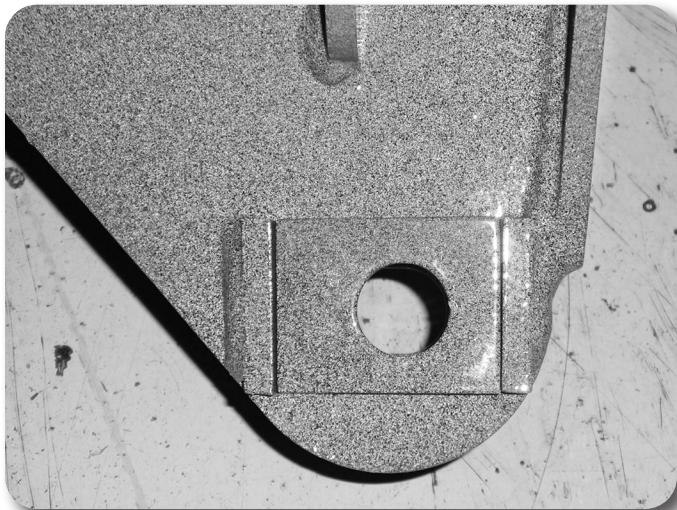

Figure 16
42. Attach the track bar to the new bracket with the OE hardware. Turn the steering wheels to aid in aligning the track bar in the bracket. Install the provided cam washers between the alignment tabs on the bracket. Position the cam washers so that the hole is closer to the driver's side for 4" kits. **Figure 16** Torque hardware to 405 ft-lbs.